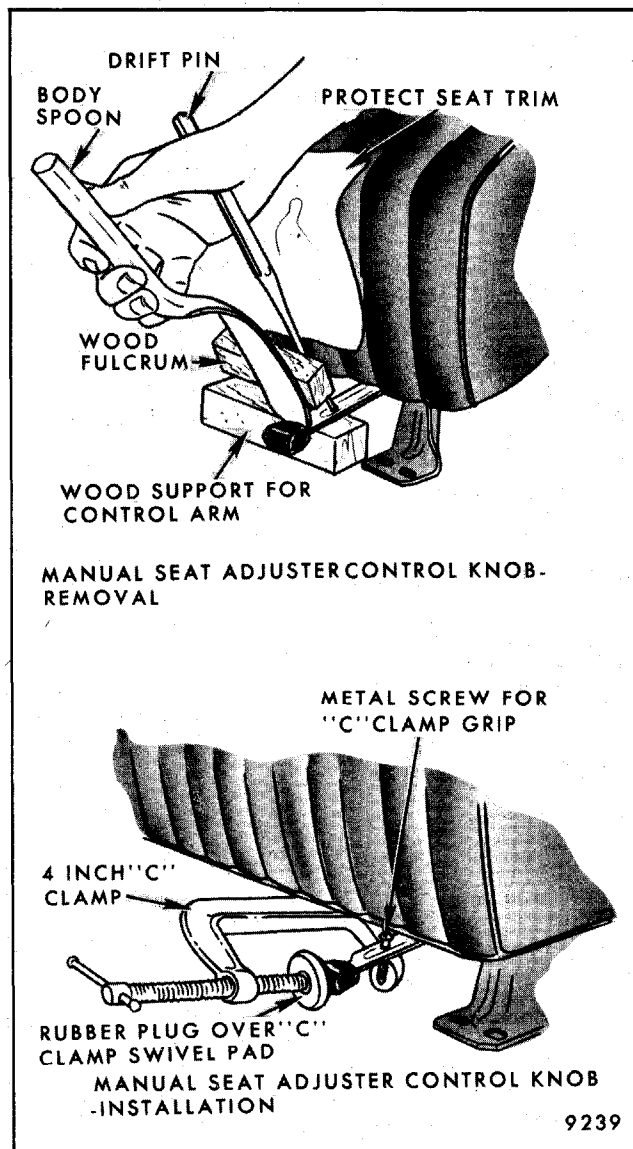

Fig. 9-9-Front Seat Adjuster Control Arm Knob - Removal and Installation
can generally be removed and reinstalled several times without losing adequate retention. If removing or installing a control knob on a trimmed seat assembly, place a protective cover over trim material in area of knob (see Fig. 9-9).
Using a heavy body spoon, a long drift pin and a piece of wood as a fulcrum as shown in Figure 9-9, carefully remove knob from adjuster control arm. Place a support under control arm to prevent bending arm.
3. Insert sheet metal screw or drift pin in hole provided in adjuster control arm and place "C" clamp in position as shown in Figure 9-9. Use round rubber plug (part no. 4802102 or equivalent) over swivel pad of "C" clamp to prevent damage to knob and to prevent "C" clamp swivel pad from slipping off knob.